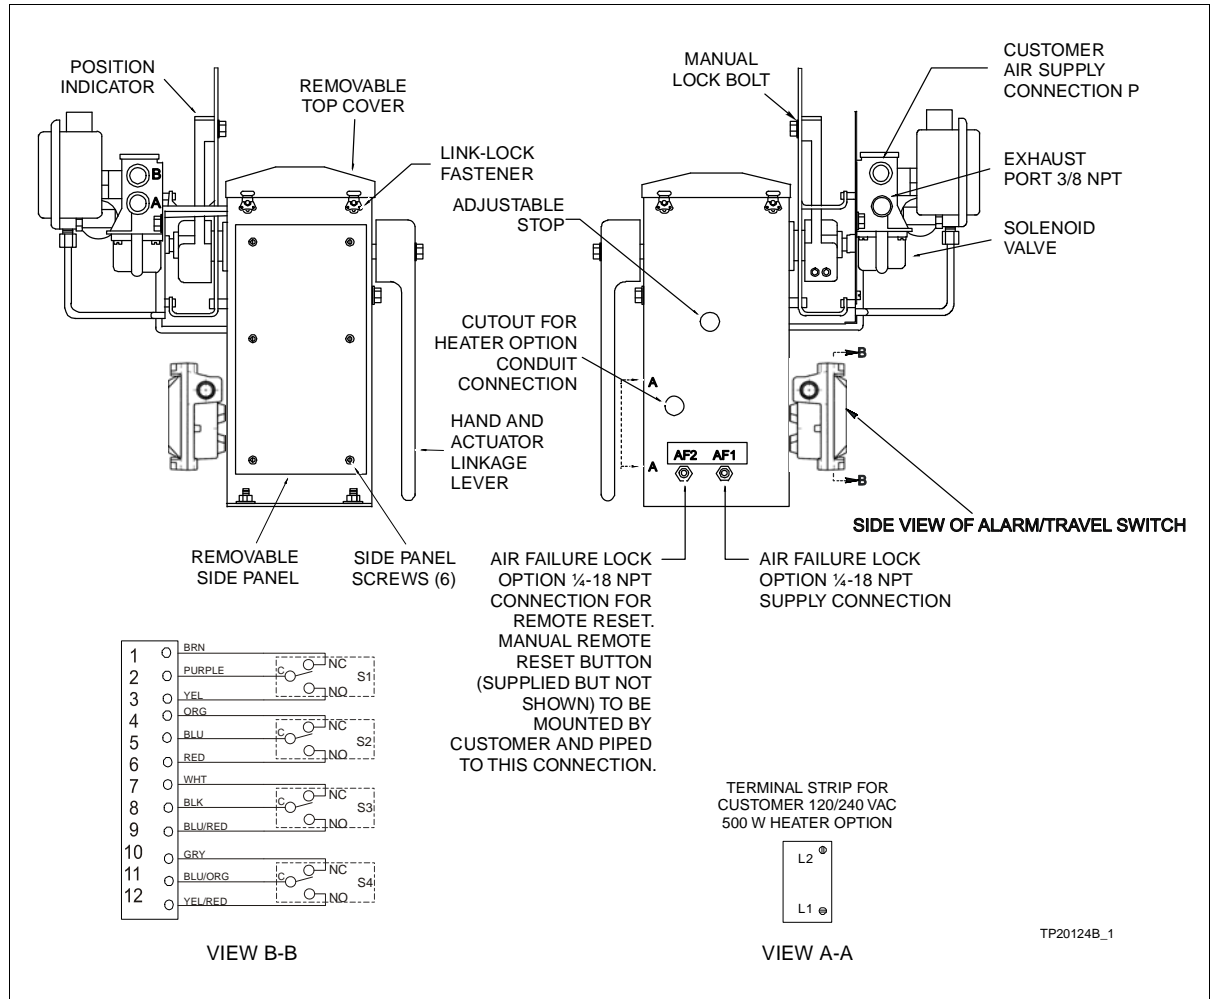

Figure 3-10. Type UP2 Actuator with Solenoid Valve
1. Refer to Figures 3-10, 3-14 and 3-16.